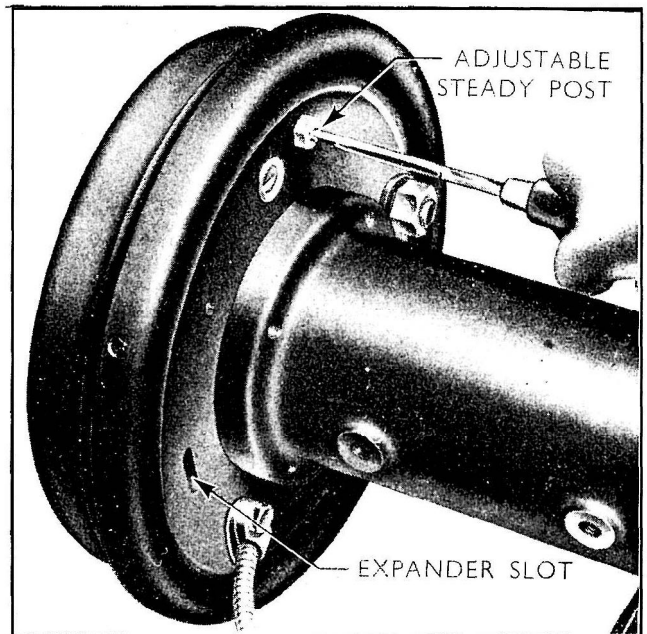

Fig. 224
- 2 Loosen the steady post locknut (see Fig. 224) and turn the post in a clockwise direction by means of a screwdriver, at the same time rotate the drum backwards and forwards through a small arc, until a definite drag on the drum is felt.